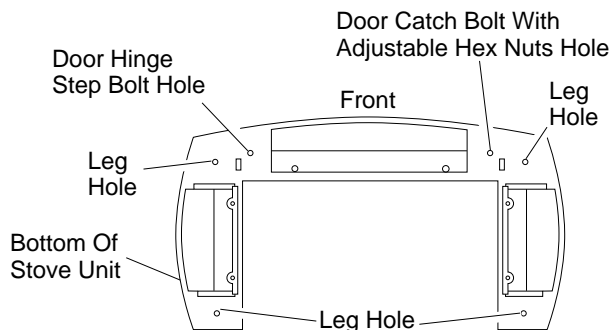
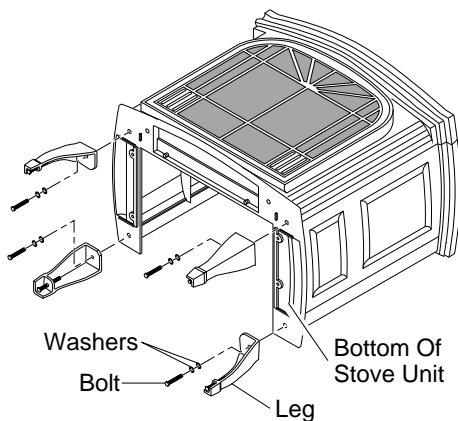
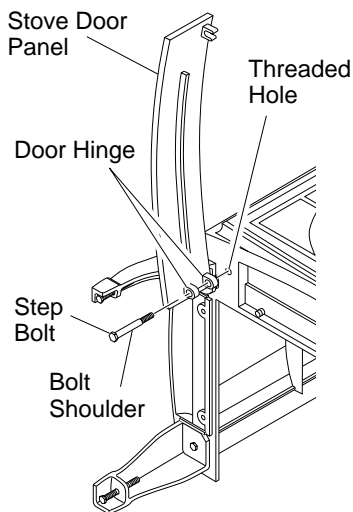
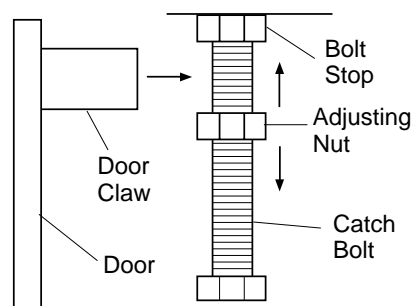

Figure 9 - Locating Threaded Holes for Legs and Door Attachment
Figure 10 - Attaching Stove Legs
Figure 11 - Attaching Lower Stove Door Panel
Figure 12 - Catch Bolt and Door Claw Orientation
8. Fasten each leg to stove with four (4) M8 x 1.25 - 20mm bolts. Use a flat washer and lock washer with each bolt. Tighten bolts into threaded holes on stove body (see Figure 9 and Figure 10, page 6). Use an adjustable wrench or a 12mm socket.
9. Attach stove door by inserting step bolt through door hinge pivot hole and into threaded hole in stove body (see Figure 9, page 5 and Figure 11). Use an adjustable wrench or a 12mm socket to fasten step bolt. Tighten step bolt until snug. Make sure door moves freely.
10. Install door catch bolt (M8 x 1.25-55mm with two M8 hex nuts) into threaded hole on stove body (see Figure 9, page 5). Use an adjustable wrench or a 12mm socket. The catch bolt has two hex nuts attached to it (see Figure 12). The top nut is a bolt stop and the bottom nut is for door leveling adjustment.
11. Check general catch bolt alignment with door claw. Make final adjustment and door leveling after stove is in normal standing position (see Figure 12).